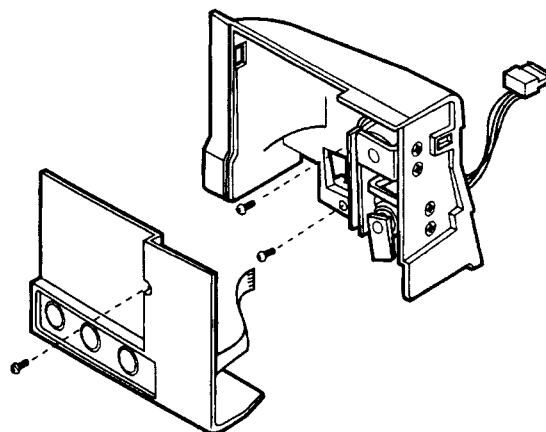

Figure 23: Removing the Dispenser Switch Membrane
- Unplug the Dispense Switch and Solenoid harness from the control board and remove three screws from the changer as shown in Figure 23.